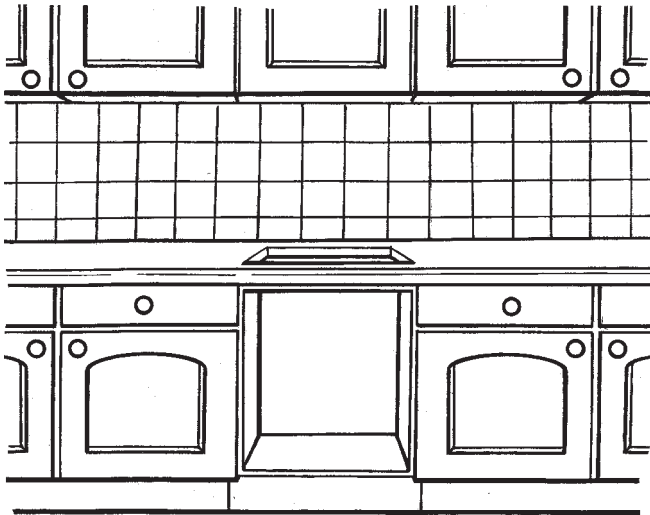

Figure 1 - combined installation
1. Oven and hob combined in a single housing unit under a worktop, as shown in Figure 1.